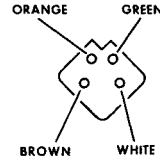

Figure 28 - Power Receptacle
1. To check for PROPER VOLTAGE at the icemaker power receptacle, use a voltmeter to measure line voltage between the brown lead and orange lead terminals. See figure 28.